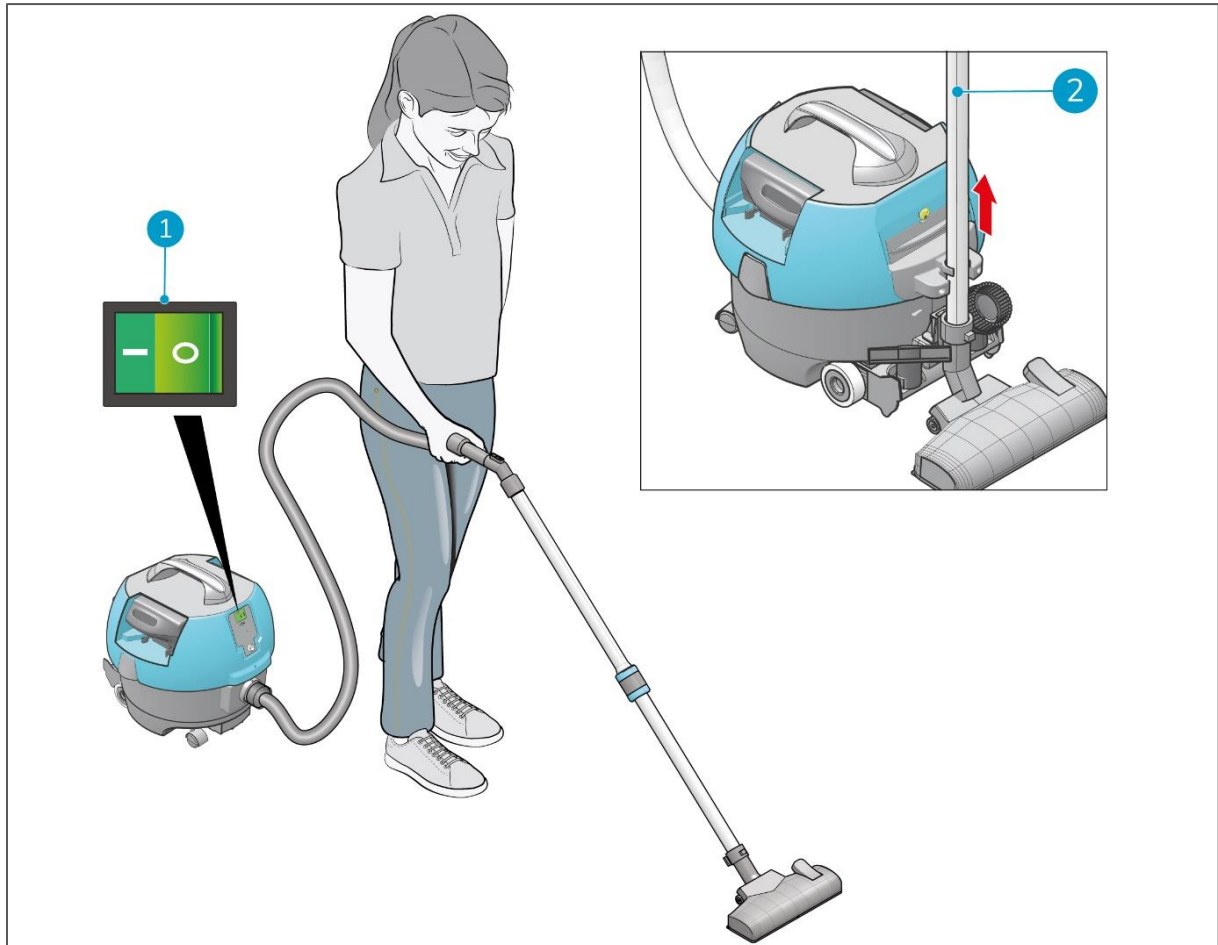

Figure 18
1. Press the ON/OFF switch (Figure 18, pos 1) to start the i-vac 9B®. The vacuum function LED will go on.
2. Take the wand (Figure 18, pos 2) from the holder.
1. Press the ON/OFF switch (Figure 18, pos 1) to switch off the i-vac 9B.
2. Place the wand (Figure 18, pos 2) back in the holder.